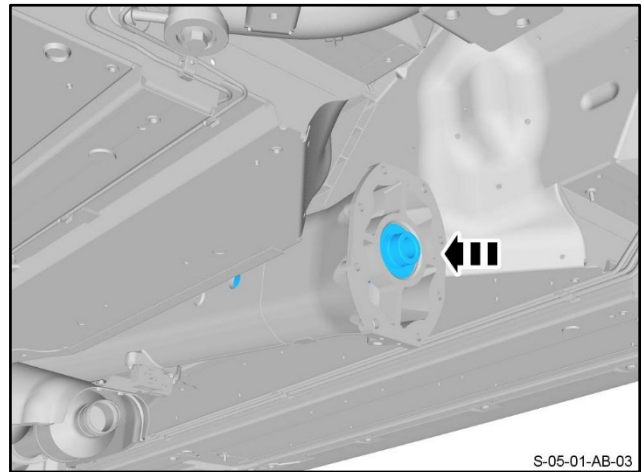

Figure 44
- 86.** Carefully install the propeller shaft into the torque tube and engage the splines of the propeller shaft in the clutch (refer to Figure 44).